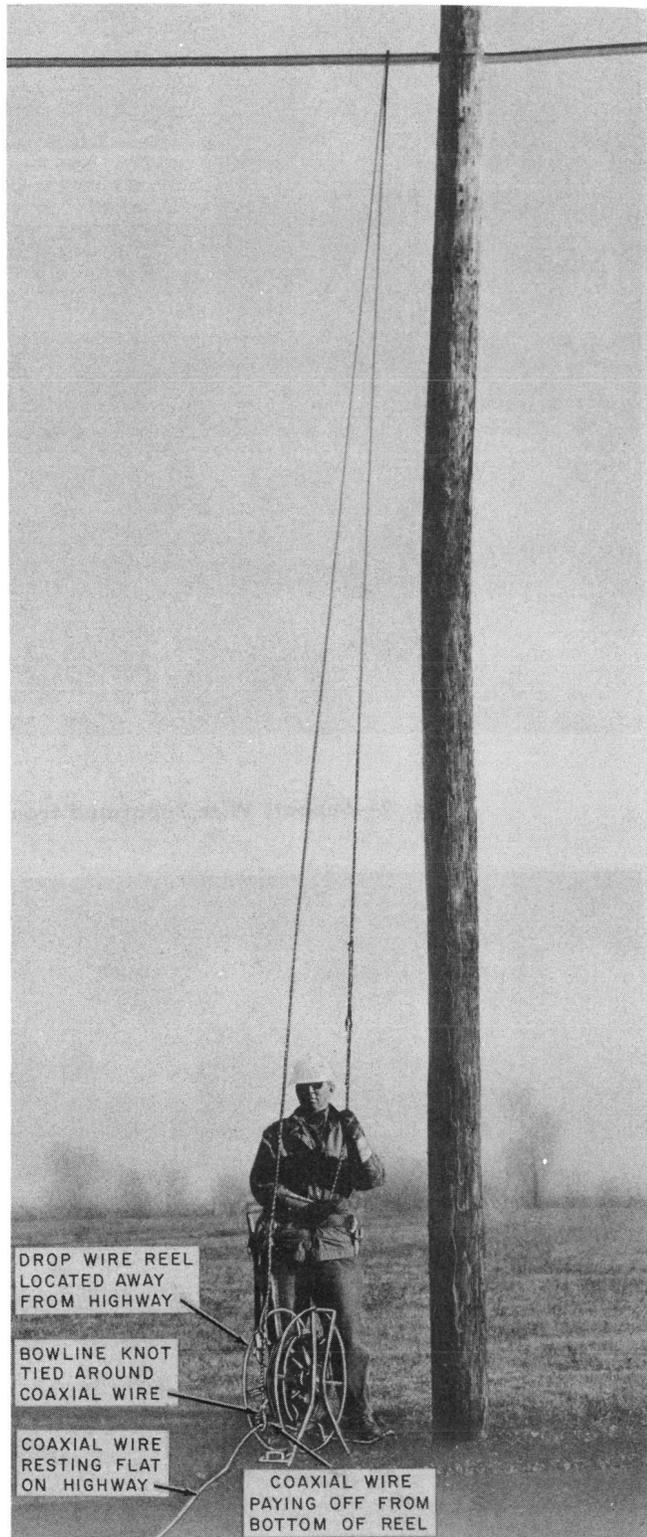

Fig. 5—▶Handline Placed Over Strand◀
4.06 Place a handline over the strand, guard arm, drive hook, or crossarm (similar to Fig. 5) so that both ends reach the ground with no excess length in that portion of handline toward the building. If practical, the handline may be formed into a coil at one end and thrown over the strand. After the handline has been placed, tie it to the base of the pole or the lower rungs of the ladder to avoid interference with pedestrians or vehicles. If it is necessary to climb the pole or ladder to place the handline, install any drop wire support that is needed while aloft.